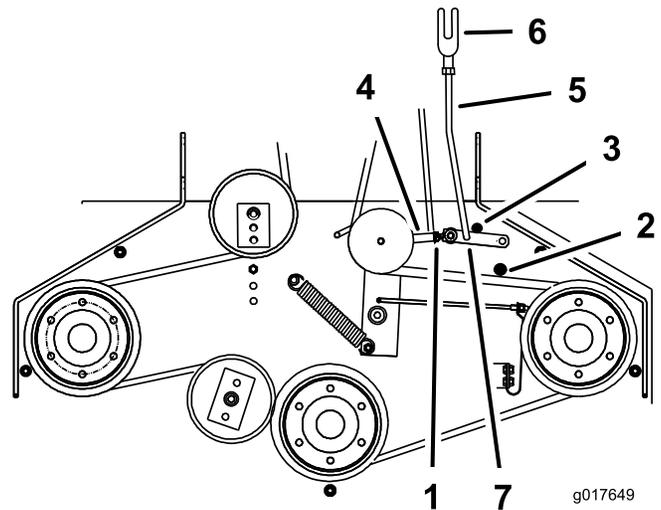

Figure 51
8. To adjust the assist arm link, remove the hairpin cotter pin from the assist arm (Figure 51).
11. Install the assist arm link into the assist arm and secure it with the hairpin cotter pin (Figure 51).